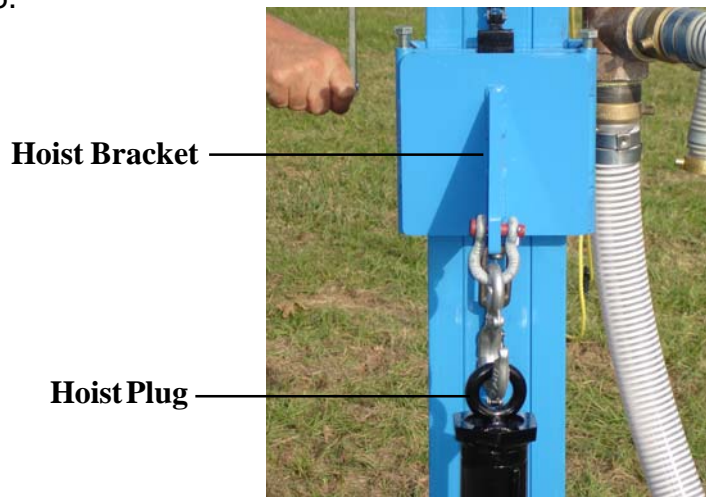

Figure 5
3. Raise the drill head to height where it can be removed. Remove the hinge bolts to remove the drill head. Attach hoist bracket assembly to shuttle plate using the hinge bolts as shown in figure 5.